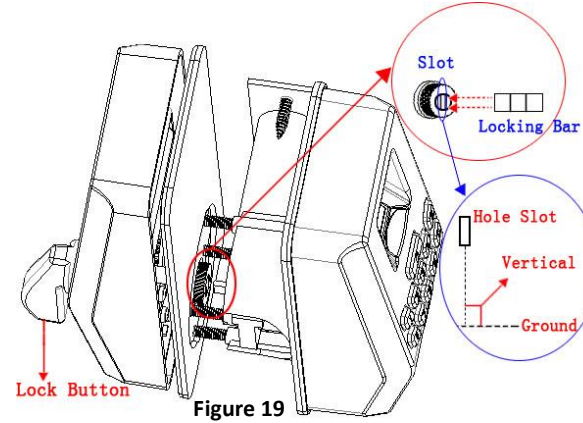

Figure 19
3. Place the silica gel backing plate on the rear panel assembly, turn the lock button to make the hole slot vertical to the ground, and insert locking bar into the hole slot (see **Figure 19** below). In this case, when you turn the lock button, the latch-bolt can spring out or back automatically.